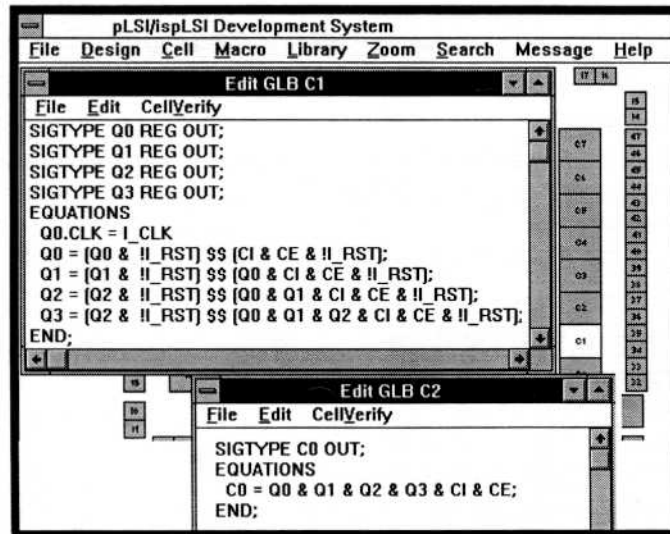

Figure 3-7. Cell Entry Windows with Counter Equations
3. Enter the equations shown in Listing 2 into the Edit Cell window for GLB C1. See Figure 3-7.
8. Verify the equations by clicking on the CellVerify menu option. See Figure 3-7.